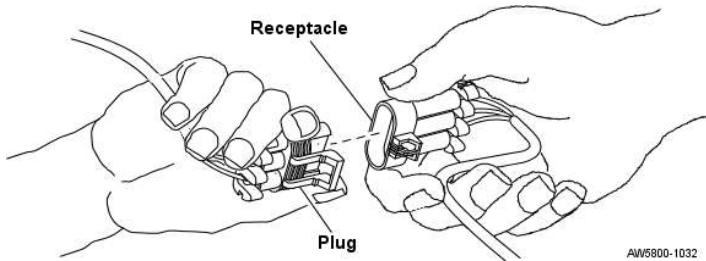

Fig. 9: Assembling the Electrical Connector
1. To assemble the connectors, insert the deflection sensor connector plug into the sensor extension cable connector OR connect to the deflection sensor test box, not included in your installation kit. Ensure the locking tabs on the connector plug engage completely (Fig. 9).